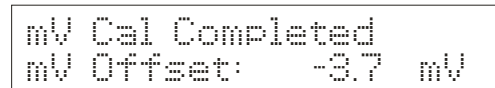
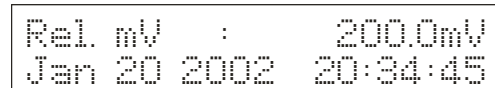

Figure 41
Figure 42
7. Press **ENTER** key to confirm the reading. The display flashes *mV Cal Completed, mV Offset:* (shows the mV offset value). See **Figure 41**. It then flashes *Sys Updating... Please wait...* The meter returns to mV measurement mode. The upper display now reads *Rel. mV.* See **Figure 42**.